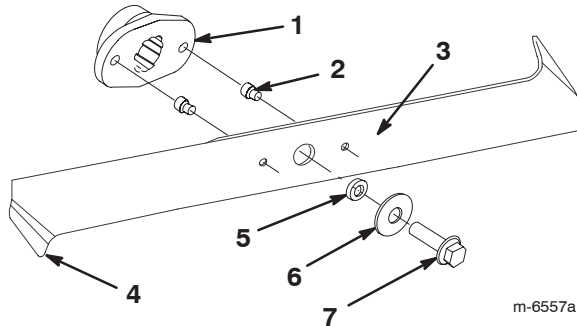

Figure 32
2. Inspect the cutting edges (Fig. 32). If the edges are not sharp or have nicks, remove the blades and sharpen them; refer to Sharpening the Blades on page 33.
3. Inspect the blades, especially the bent edges (Fig. 32). If you notice any wear or damage in this area, immediately install new blades.
4. If the shear pins are broken, replace them immediately (Fig. 32).
3. Remove the bolts, washers, and blades (Fig. 32). Wedge a block of wood between each blade and the mower to lock the blade when you are removing each bolt.
1. Install the blades, washers, and blade bolts (Fig. 32).